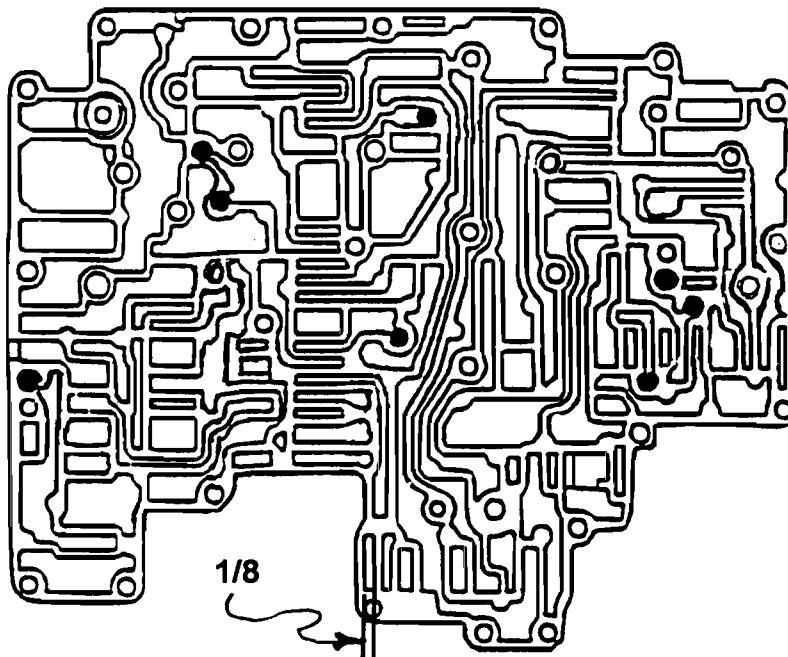
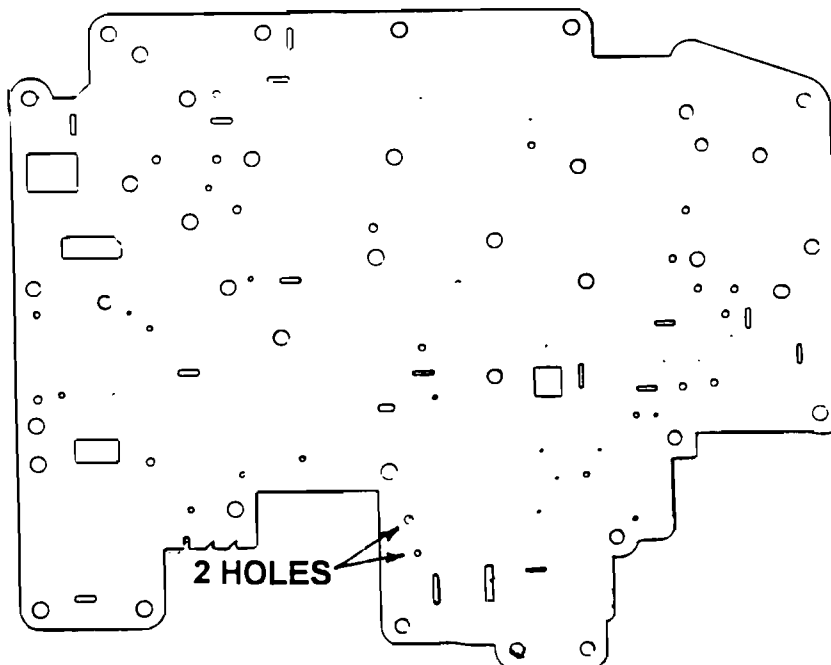

FIGURE 1
FIGURE 2
Manual Selector Indicator with D-3-1 or OD-3-1 has 1/8" wide passage by manual valve Figure 1. In Figure 2 the separator plate has two (2) additional holes above the manual valve location.